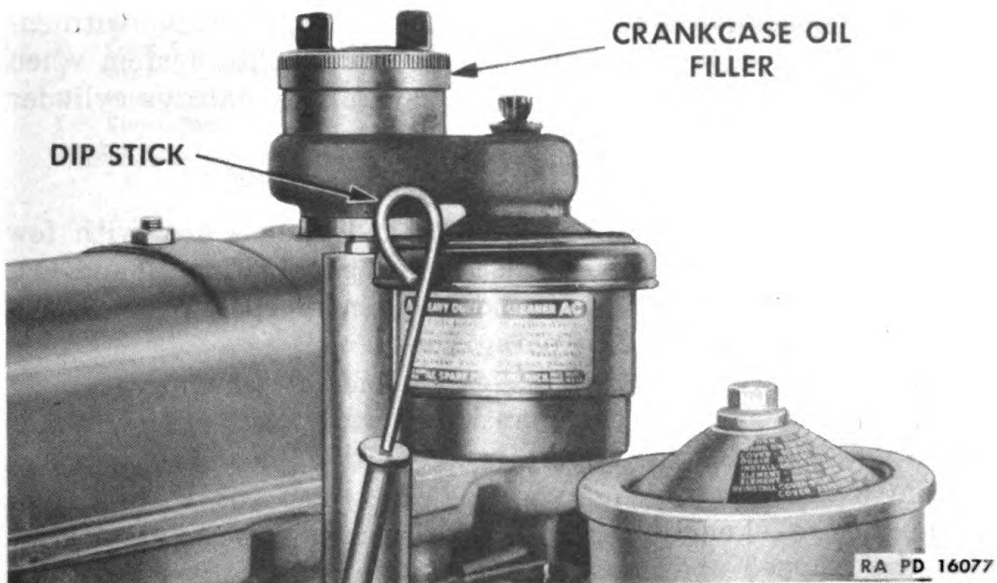

Figure 9—Crankcase Oil Filler and Dip Stick
(1) Crankcase oil filler neck (Fig. 9), mounted on right-hand side of engine, is accessible after engine compartment hatch is raised. Lubricant capacity of crankcase, type of lubricant recommended, and filling, draining, and flushing intervals are outlined in Section VI, "Lubrication."
(2) Oil filler dip stick (Fig. 9), mounted on right-hand side of engine, is also accessible after engine compartment hatch is raised. Lower portion of dip stick is graduated showing relative oil level of crankcase. Dip stick should be pulled out, lower portion wiped off with a clean cloth, reinserted to its limit, then pulled out again for correct reading. Oil level of crankcase will be indicated on graduated portion of gauge or dip stick. Crankcase oil should be kept up to the "full" mark.